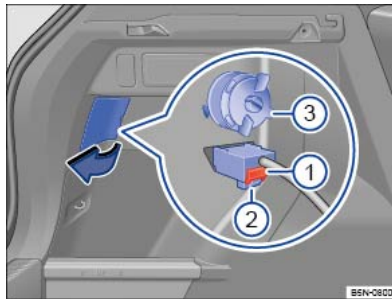

Fig. 207 On the side of the luggage compartment: removing the tail light cluster.
3.	Open the section of side trim in the luggage compartment near the tail light cluster in the direction of the arrow \Rightarrow Fig. 207.
4.	Press the red catch \Rightarrow Fig. 207 on the connector and pull out the connector \Rightarrow Fig. 207 . If necessary, use the screwdriver from the vehicle tool kit to undo the red catch.
5.	Release the securing bolt anticlockwise \Rightarrow Fig. 207 .
12.	Use one hand to hold the tail light in the fitting position while using the other hand to screw the securing bolt firmly back in ⇒ Fig. 207 ③.